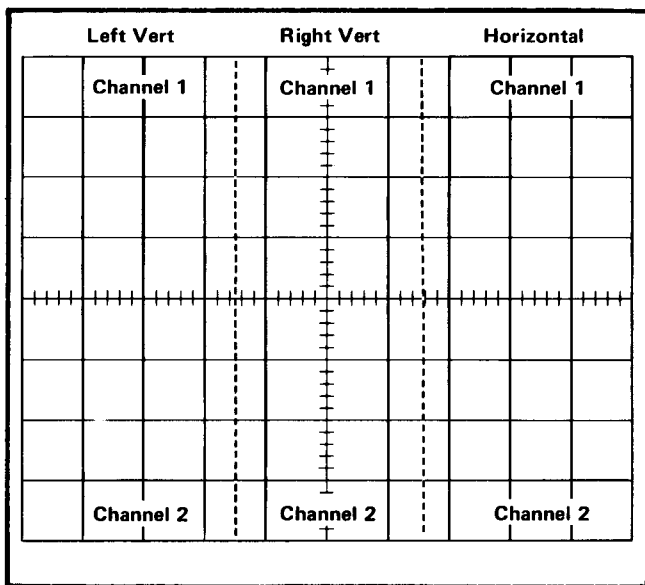

Fig. 4-24. Location of readout words on the CRT identifying the originating plug-in unit and channel (one complete frame shown, simulated readout).
Frame—A frame is a display of all words for a given operating mode and plug-in combination. Up to six words can be displayed in one frame. Fig. 4-24 shows one complete frame (simulated readout) and the position at which each of the six words is displayed.
each word is fixed and is directly related to the plug-in unit from which it originated. Fig. 4-24 shows the area of the graticule where the readout from each plug-in unit is displayed. Notice that channel 1 of each plug-in unit is displayed within the top division of the CRT and channel 2 is displayed directly below within the bottom division. Fig. 4-26 shows a typical display.
The Character Generator stage produces the characters which are displayed on the CRT. Any of the 50 characters shown on the Character Selection Matrix of Fig. 4-24 can be addressed by proper selection of the column and row current. Only one character is addressable in any one time-slot; a space can be added into the displayed word by the Decimal Point Logic and Character Position Counter stage when encoded by the plug-in. The latter stage counts how many characters have been generated and produces an output current to step the display one character position to the right for each character. In addition, the character position is advanced once during each of time-slots 1, 2, and 3 whether a character is generated during these time-slots or not. This action fixes the starting point of the standard-format display such that the first digit of the scaling factor always starts at the same point within each word regardless of the information encoded in time-slot 2 (normal/invert) or time-slot 3 (cal/uncal) which precedes this digit. Also, by encoding row 10 and column 0 during any time-slot, a blank space can be added to the display. Decimal points can be added to the display at any time by addressing row 7 and columns 3 through 7 (see Character Selection Matrix for location of these decimal points). The Decimal Point Logic and Character Position Counter stage is reset after each word by the Word Trigger pulse.
The Format Generator stage provides the output signals to the vertical and horizontal deflection systems of the instrument to produce the character display. The binary Channel Address No. 2 code from the Channel Counter stage is connected to this stage so that the display from each channel is positioned to the area of the CRT which is associated with the plug-in and channel originating the word (see Fig. 4-24). The positioning current or decimal point location current generated by the Decimal Point Logic and Character Position Counter stage is added to the horizontal (X) signal at the input to the Format Generator stage to provide horizontal positioning of the characters within each word. The X- and Y-output signals are connected to the Horizontal Amplifier and Vertical Amplifier through the Horizontal Output and Vertical Output stages respectively.